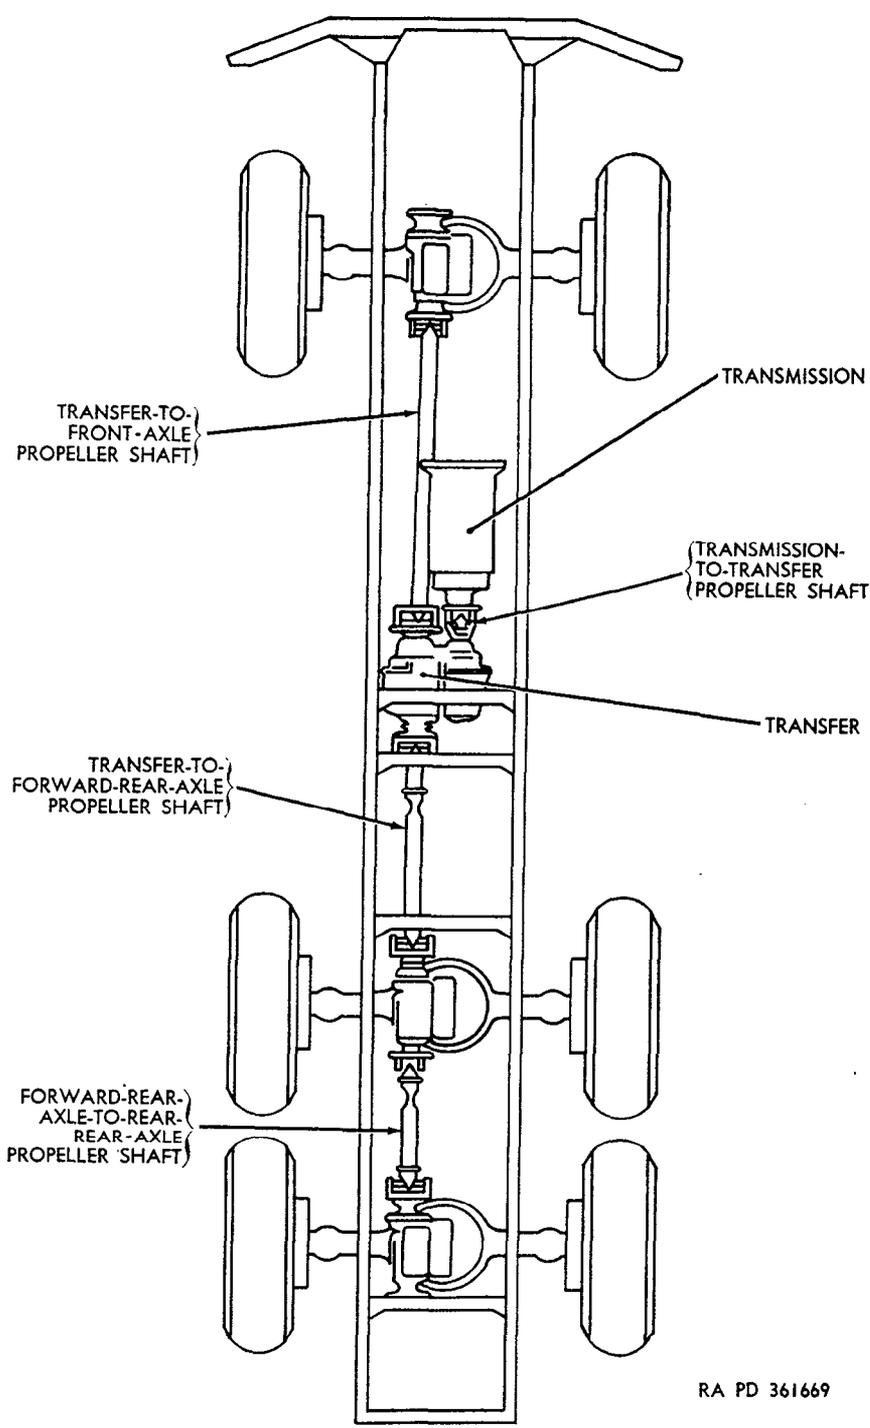
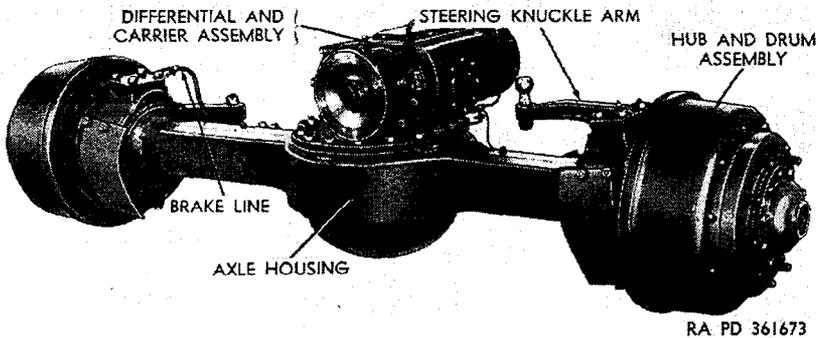

Figure 213. Diagram of axle driving propeller shafts.
Figure 217. Front axle assembly.
a. General. Four propeller shafts with universal joint assemblies (fig. 213) are used to transmit power from the transmission to the transfer and front and rear axles. These propeller shafts, designated according to the units which they connect, are as follows: transmission-to-transfer, transfer-to-front-axle, transfer-to-forward-rear-axle, and forward-rear-axle-to-rear-rear-axle. In addition, the following propeller shafts are used to transmit power for operation of auxiliary equipment: power-take-off-to-front-winch (all vehicles equipped with front winch), power-take-off-to-hydraulic-hoist-pump (M51 only), power-take-off-to-power-divider (M62 only), and power-take-off-to-crane-hydraulic-pump (M246 only).
a. Description. The front axle assembly (fig. 217) is a hypoid, double reduction, single speed type. It is secured to the underside of the front springs by a pair of clamp plates and U-bolts at each end. The differential and carrier assembly on top of the axle housing transmits power from the transfer-to-front-axle propeller shaft (fig. 213) to the left and right drive shafts inside the housing whenever the over-running clutch on the transfer front output shaft is engaged (par. 206*a*). Universal joints installed at the outer end of each of the drive